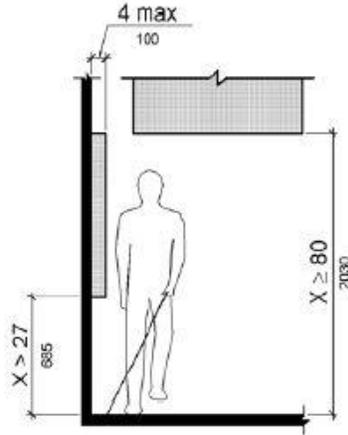

Figure 307.2 Limits of Protruding Objects
****Note: The baby changing table shown on Sheet A1-100 may be considered a protruding object when left in the down position. Therefore, the unit should be mounted with the bottom of the changing table no higher than 27 in. above the finished floor. Compliance with the technical requirements referenced in Section 307.2 shall be verified during inspection. See also additional information in Fig. 307.2.**